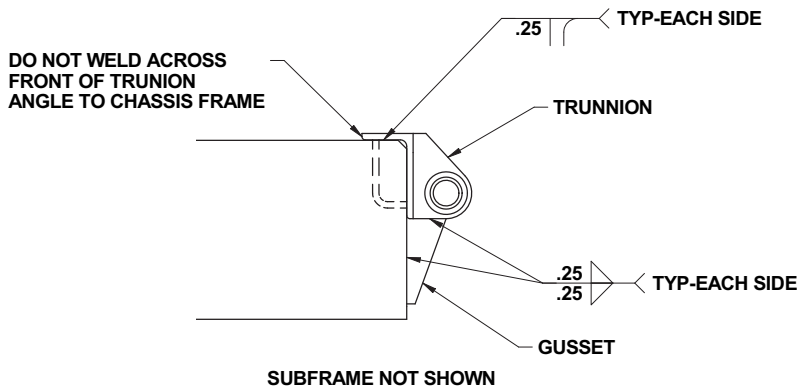

Figure 4 - Trunnion Installation
4. Weld the trunnion to the chassis frame rails as shown in Figure 4. Do not weld across the front of the trunnion angle and the top of the chassis frame rails.